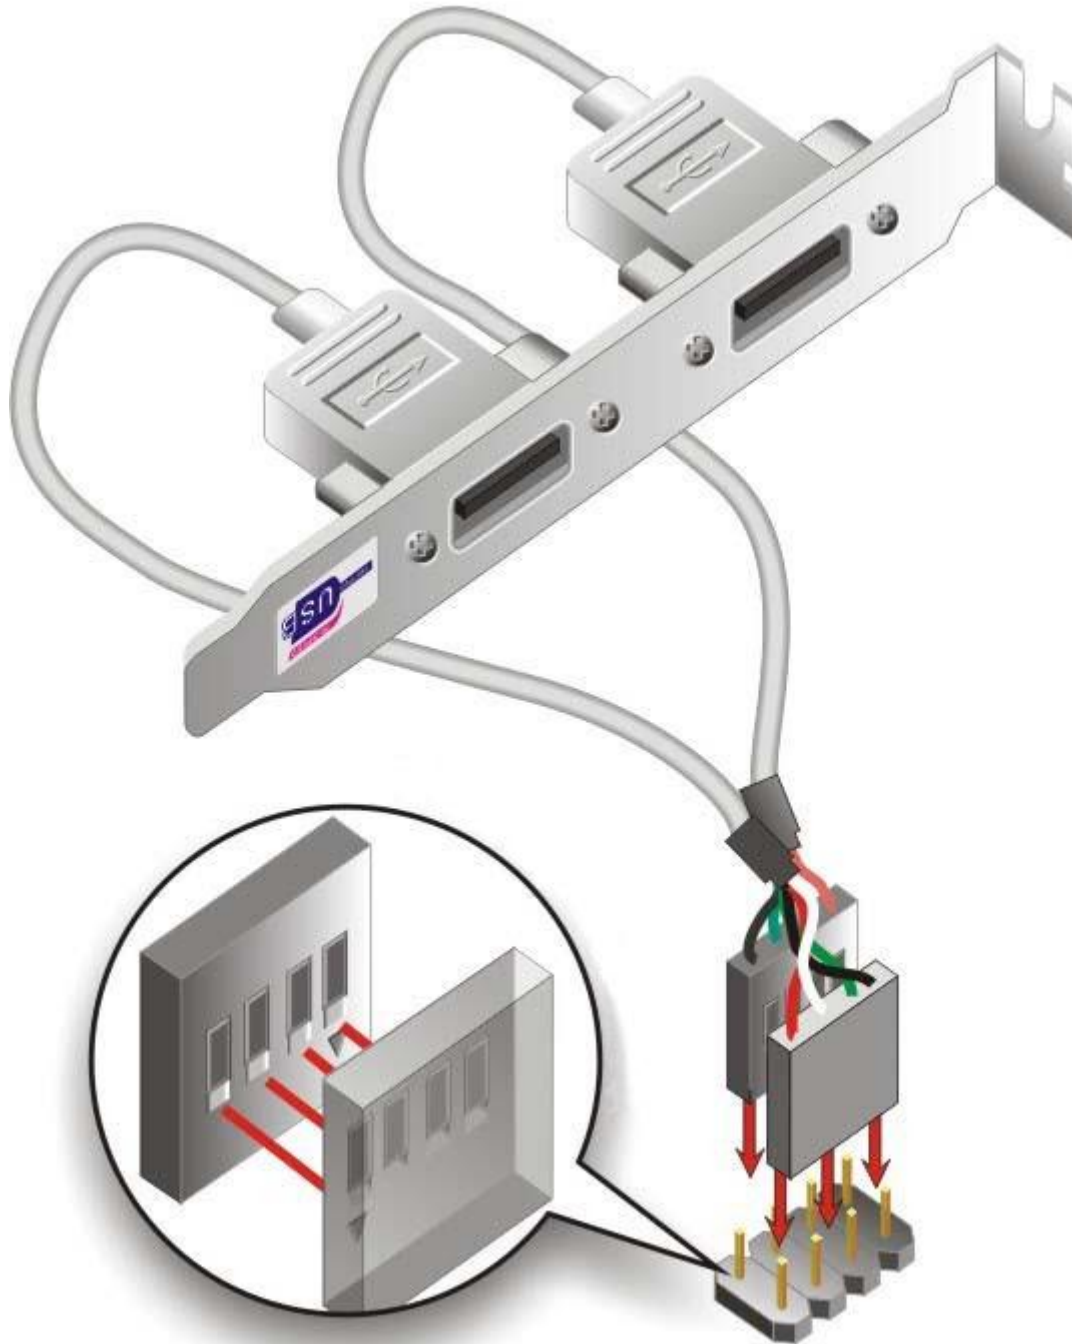

Figure 4-14: Dual USB Cable Connection
Step 3: Insert the cable connectors, Once the cable connectors are properly aligned with the USB connectors on the AESQ67-967 Series, connect the cable connectors to the on-board connectors. See **Figure 4-14**.